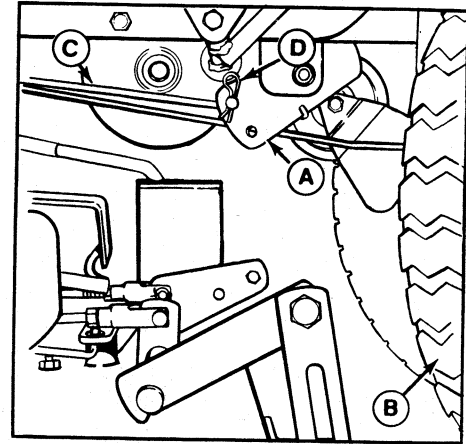

**Figure 5A. R.H. PTO Pulley Belt Stop**
8. Slip the mower drive belt onto the Engine PTO pulley (D, figure 3). Loosen the belt stops if necessary. The left-hand belt stop is item E in figure 3. The right-hand belt stop is item A in figure 5A.